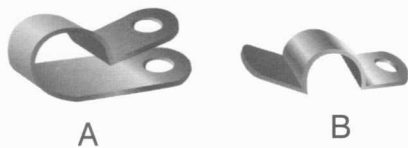

FIGURE 22
Two types of clamps are provided to anchor the watering tube: (2) 1/2-inch standard clamps and (2) 1/2-inch half clamps (**Figure 22**). Use 1/2-inch screws to mount the half clamps and 1/2-inch screws for the standard clamp.